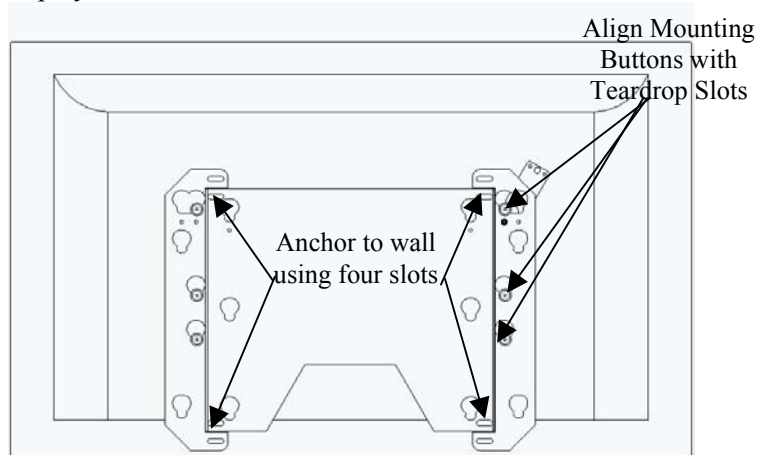

Figure 13
6. With the aid of another person, lift the display up to the mount, align the mounting buttons on the display with the teardrop slots in the mount, and set the display into place (see Figure 13).